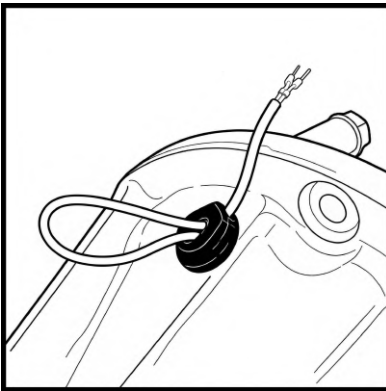

Fig. 29
3.23 Insert the rubber seal into the hole in the differential carrier. Remove any excess gasket maker. **(Fig. 29)**